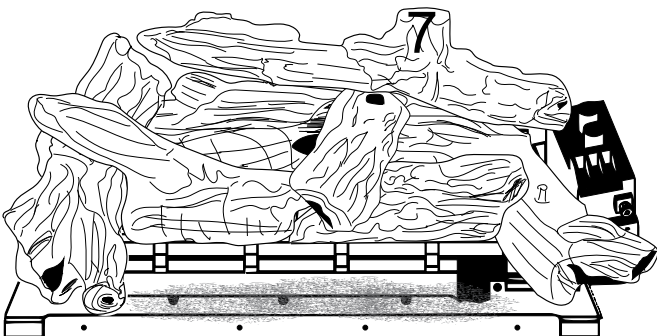

Figure 5.8 - Log #7 Placement
8. Hold log #7 with the pointed end to the left and the flat end toward the bottom. Place log #7 by positioning the two pin locator holes on the bottom of the log over the pins on log #1 and #2. See Figure 5.8.